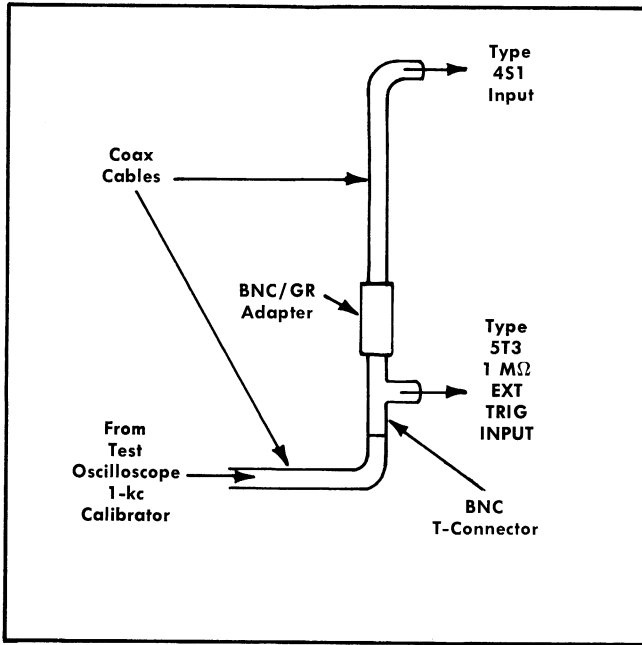

Fig. 5-35. Signal connections for checking real-time display jitter.
- b. Connect a 200-mv 1-kc square-wave signal to the Type 5T3 1 MΩ EXT TRIG INPUT and to the vertical input of the sampling unit as shown in Fig. 5-35. The test oscilloscope calibrator may be used for the signal source.